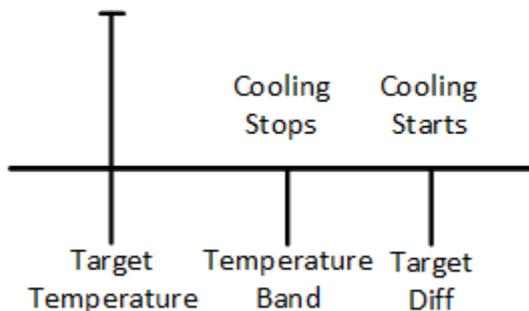

Figure 39: Cooling Temperature On Off
- When the temperature reaches the Target Temperature plus the Temperature Difference, cooling begins and continues until the temperature falls below this point (minus the band) (Figure 39).
- Temperature Band: When the temperature reaches the target temperature plus this differential **minus the temperature band**, cooling stops. Range: 0.2 - 20.0. Default: 1.1 (see Figure 39)